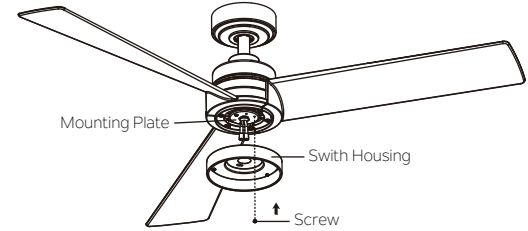

Fig. 18
Step 2. Place the two slot holes on the switch housing over the 2 screws previously loosened from the mounting plate. Rotate the switch housing until it locks in place at the narrow end of the key holes. Secure by tightening the 2 screws previously loosened and the one previously removed. (Fig. 18)